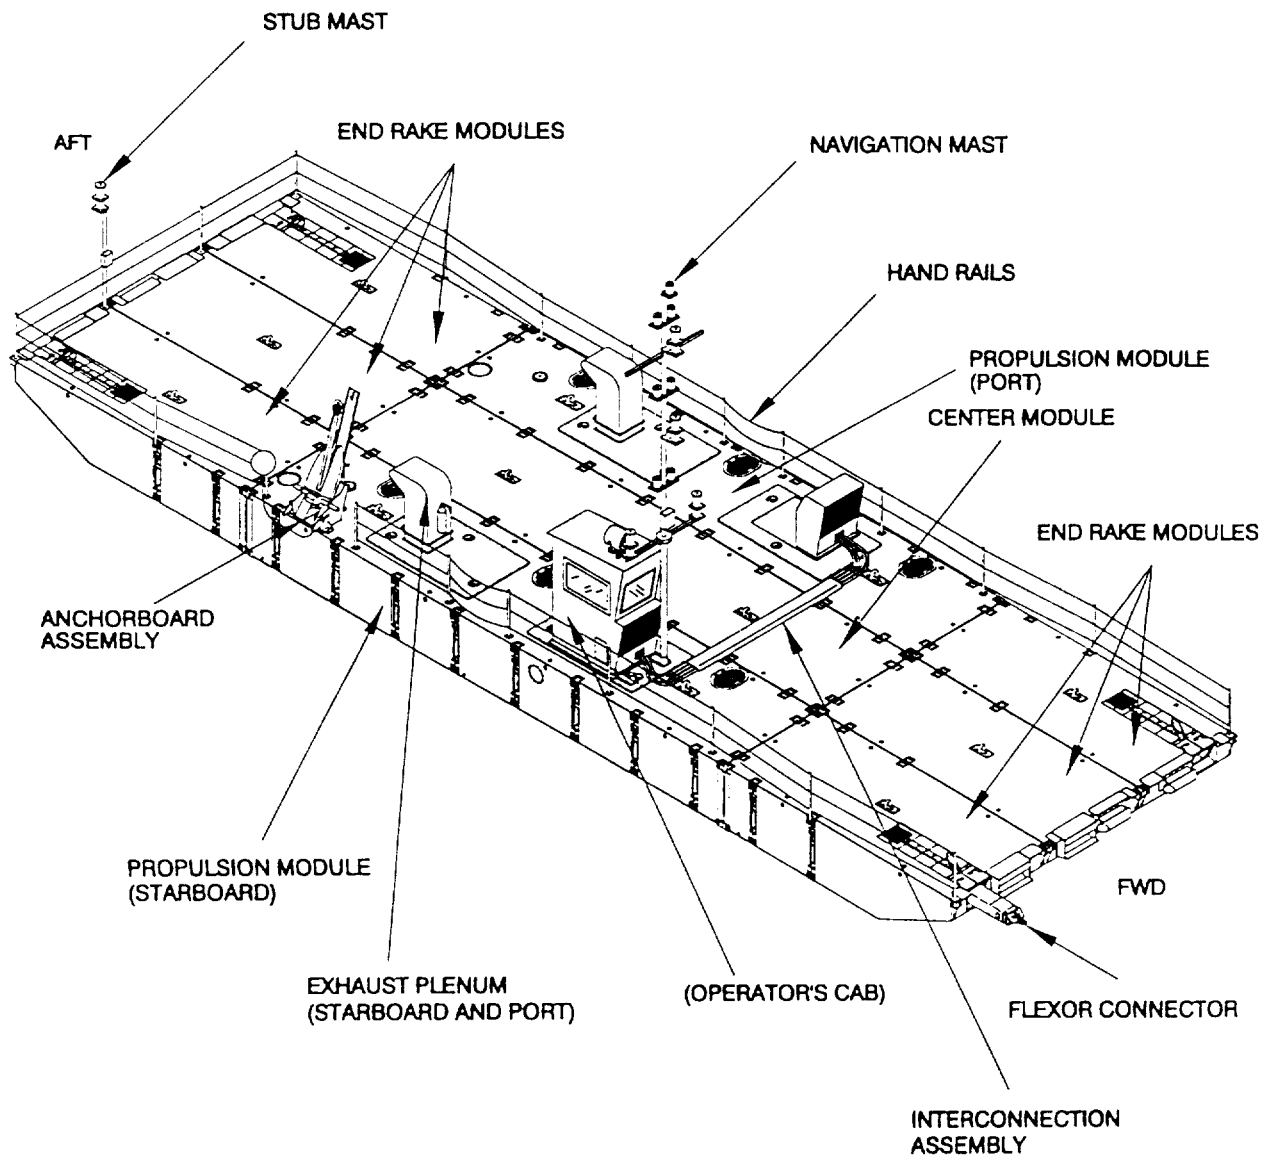

Figure 1-2. Powered Section.
**1-10 POWERED SECTION.** The Powered Section (Figure 1-2) is made up of two Propulsion Modules, one Center Module (non-powered), two Center Rake Modules and four End Rake Modules connected together by Male/Female Locking assemblies. The Propulsion Modules and the non-powered module are each 8 feet wide and 40 feet long. The end rake modules are each 8 feet wide and 20 feet long and are configured as Right Rake Assemblies, Center Rake Assemblies, and Left Rake Assemblies. All Center Modules (non-powered) are 4 feet 6 inches deep. They are fully ISO-compatible and are completely interchangeable. The Powered Section is the prime mover for the MCF and is propelled by two 8 cylinder, 600 HP, diesel marine engines driving two 360° steerable, 5,000 pound output, pump-jets. The cab with operator's controls is a self-contained unit designed to be removed for transport and can be mounted on either port or starboard propulsion module. Plug-in type electrical connectors are provided to tie electrical control into the cab location. A module electrical interconnect assembly is the electrical control link between the cab to the propulsion module opposite the cab. Navigation lighting is provided in the form of a 28-1/2 foot, main navigational mast mounted on the cab and a 8-1/2 foot stub mast that is installed at the extreme aft end of the powered section. Both masts are removable for shipment. Air intake and exhaust plenums are installed on the powered modules to provide air flow through the machinery spaces. One of the air intake plenums is integral to the cab. A hand held portable fire extinguisher mounts to either exhaust plenum. An anchorboard assembly with a 1500 pound anchor mounts to the starboard propulsion module, aft of the exhaust plenum. A removable personnel safety railing system is installed along both sides and across the aft end of the powered section. The powered section completely assembled weighs approximately 171,900 pounds.